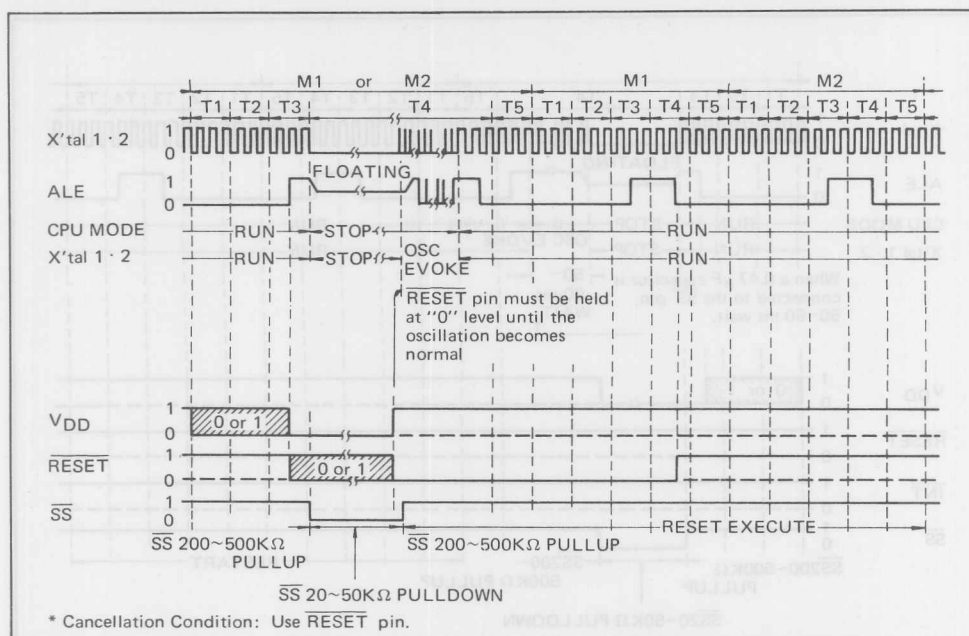

Fig. 4-5 Hardware Power Down Mode Timing Chart
- The clock generator is activated and the CPU started up when a "1" level is applied to the VDD pin while a "0" level is input to the RESET pin. If this "0" level is kept applied to the RESET pin until oscillation become stable, the CPU will be reset and will start executing from address 0. The timing chart is outlined in Fig. 4-5.